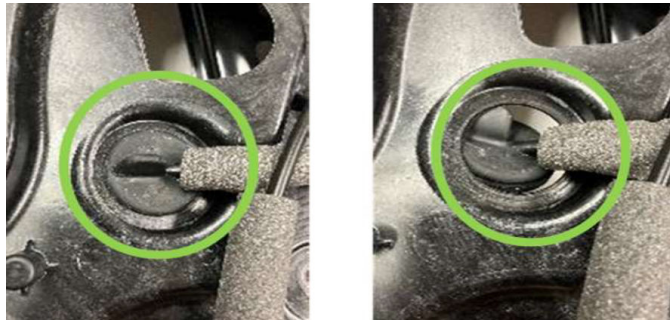

Fig. 10
12. Remove the inside handle cable circle grommet located above the access cover by pushing in Fig. 10.